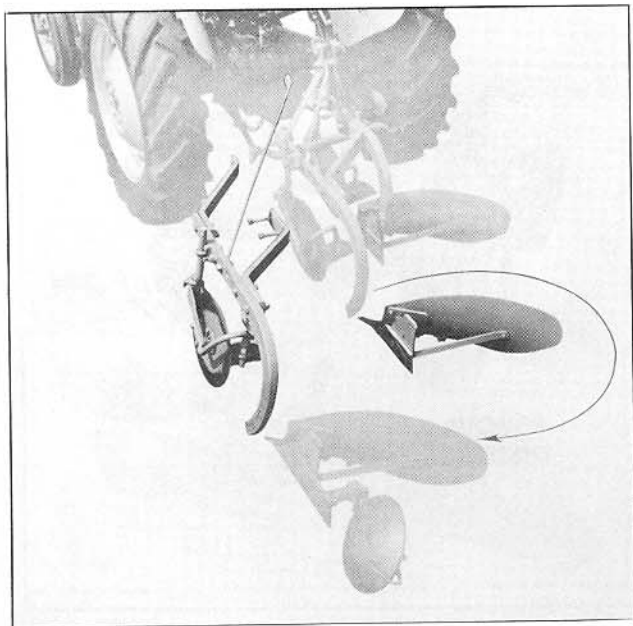

Fig. 61 Position Kit Assembly as Shown
2. Raise the plow with the tractor hydraulic system, lifting the beam out of the bottom, and move the bottom and furrow wheel assembly to the third bottom location, see Fig. 61.